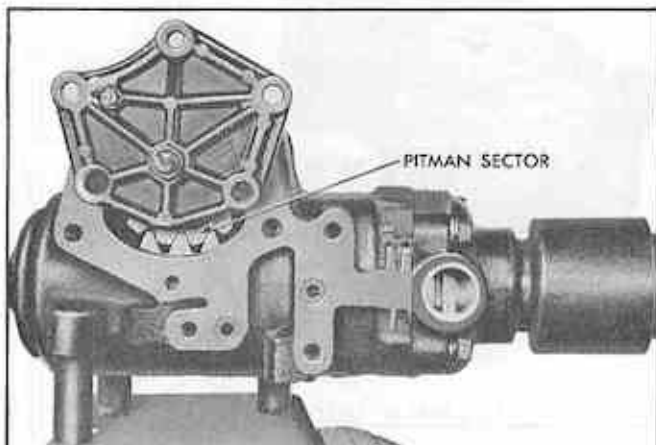

Fig. 60 Pitman Sector Alignment
2. Align pitman sector with opening in gear housing (Fig. 60). Tap end of pitman shaft with a soft hammer and slide shaft out of housing.